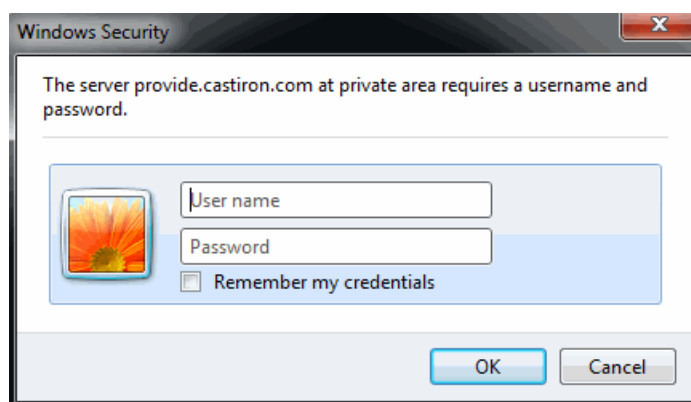

Figure 11-47 Cast Iron Live request for credentials
2. When prompted, enter your Cast Iron Live login credentials, as shown in Figure 11-47. (The dialog box that displays varies according to the browser that you use to log in.) These credentials determine the tenant to which to send the request. If your login is successful, you receive a message.